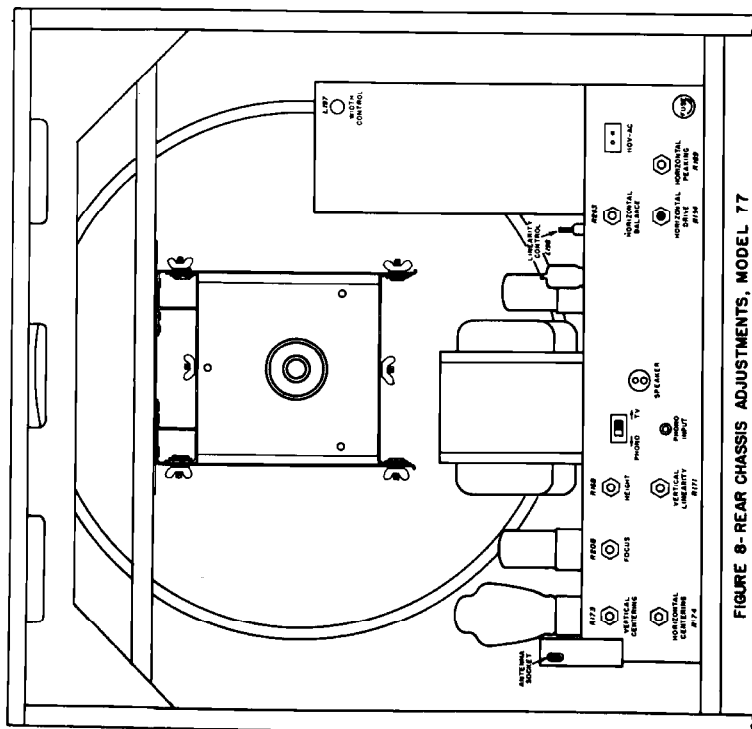

FIGURE 8-REAR CHASSIS ADJUSTMENTS, MODEL 77
9. Horizontal Balance (See Fig. 8)